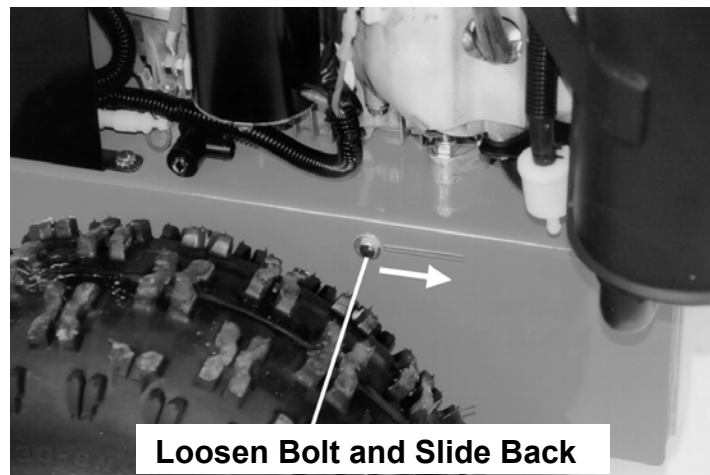

Figure 18
9. Loosen the belt retainer bolts on the outside of the frame (one on each side) and slide the retainer back (*Figure 18*).